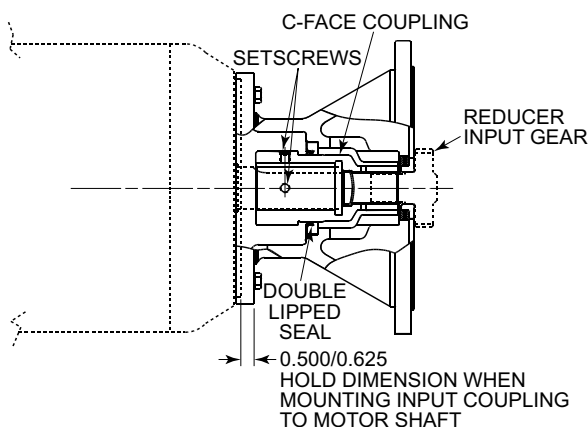

Figure 2.3.1b C-Face Cross Section
- 2.a. C-FACE: Locate the C-face coupling 0.500 to 0.625 inches from the motor face (Hint: Standard 1/2 to 5/8 inch keystock is helpful for this purpose). Refer to the illustration in **Figure 2.3.1b**. Note: This dimension changes to 0.688 to 0.750 inches for Venus/Atlas/Luna quadruple reductions and Earth/Polaris/Delta quintuple reductions.